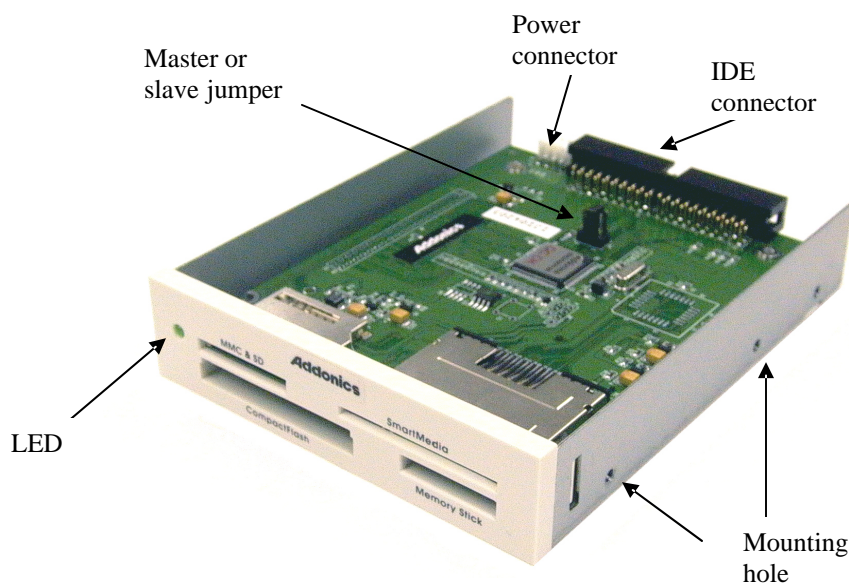

Figure 1
3. Refer to figure 1, connect the IDE cable from the motherboard and the power cable from the system power supply to the IDE DigiDrive, making sure that the cable is plug into the correct direction (pin 1 should go to pin 1 and so on).